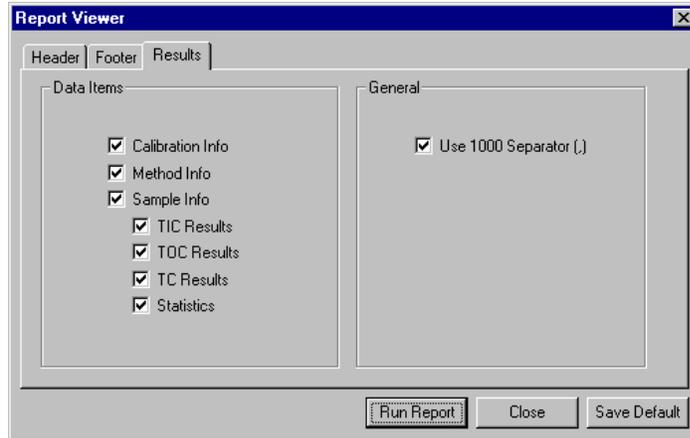

Figure 5.8. Report Viewer Results tabbed page
11. Click the **Results** tab to customize what results will be displayed (Figure 5.8.).